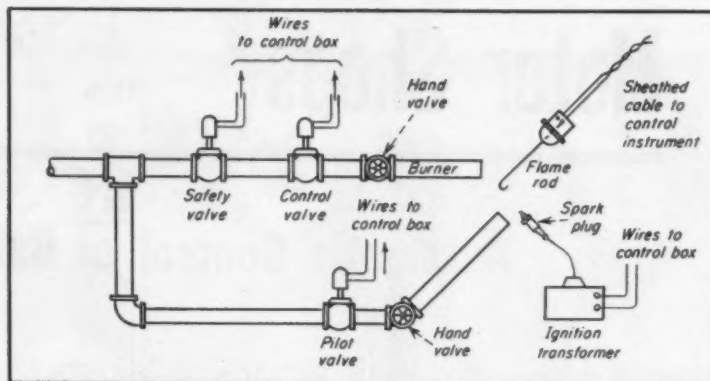

FIG. 3—Burner pipe and valve arrangement.
3. Fan motor is started, closing airflow switch (Fig. 3). Airflow switch must close to energize all controls and electrical elements of the system. Oven door must be open to provide a closed ignition circuit before oven can be lighted. The door switch is closed when the door is open; it is closed when the arm on the door presses against it.